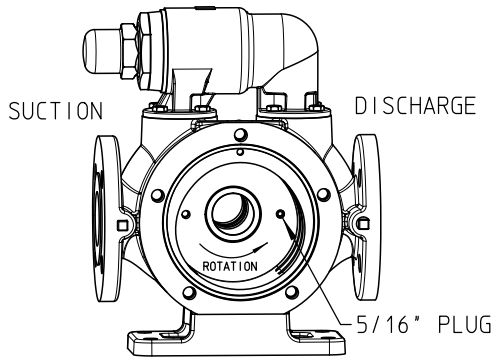

FIGURE 7
2. Ensure the suckback/flush hole is plugged per **figure 7**.